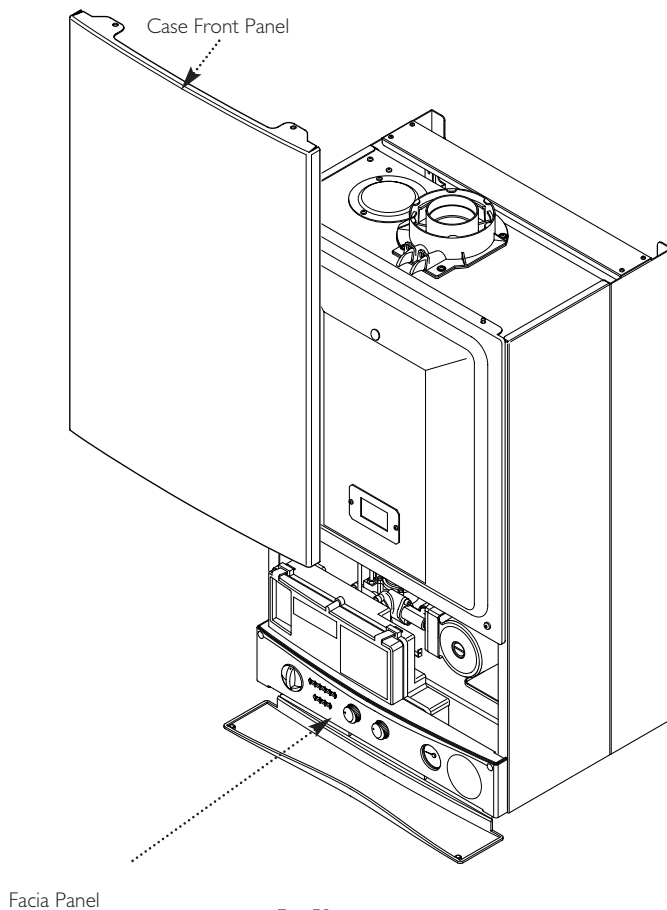

Fig. 52
1. Hinge the facia panel upwards and refit the case front panel. Tighten the securing screws (Fig. 52).